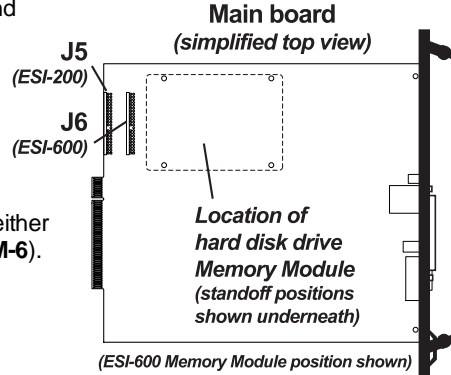

Fig. MM-6
3. Connect the cable provided with the Memory Module to either **J5** (ESI-200) or **J6** (ESI-600) on the main board (**Fig. MM-6**). Verify that the cable is fully seated at both ends. **Fold excess cable back over the top of the Memory Module.**
2. Remove the Memory Module cable connected to either **J5** (ESI-200) or **J6** (ESI-1000/ESI-600) at the **rear** of the main board (**Figs. MM-6** and **MM-7**, page F.7).